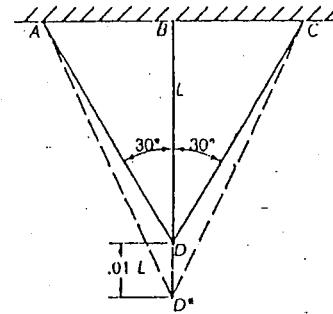

Fig. P2.17
2.17. The point D in Fig. P2.17 is displaced vertically an amount $.01L$. Obtain the approximate (first-order) average extensional strain of AD , BD , and CD .